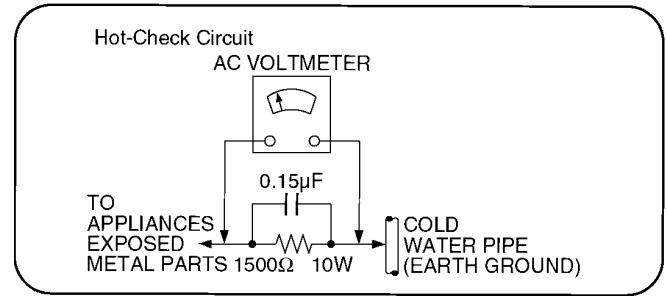

Figure 1
1.1.2. Leakage Current Hot Check (See Figure 1.)----- 3
1.1.2. Leakage Current Hot Check (See Figure 1.)
2. Connect a 1.5kohm, 10 watts resistor, in parallel with a $0.15\mu\text{F}$ capacitors, between each exposed metallic part on the set and a good earth ground such as a water pipe, as shown in Figure 1.